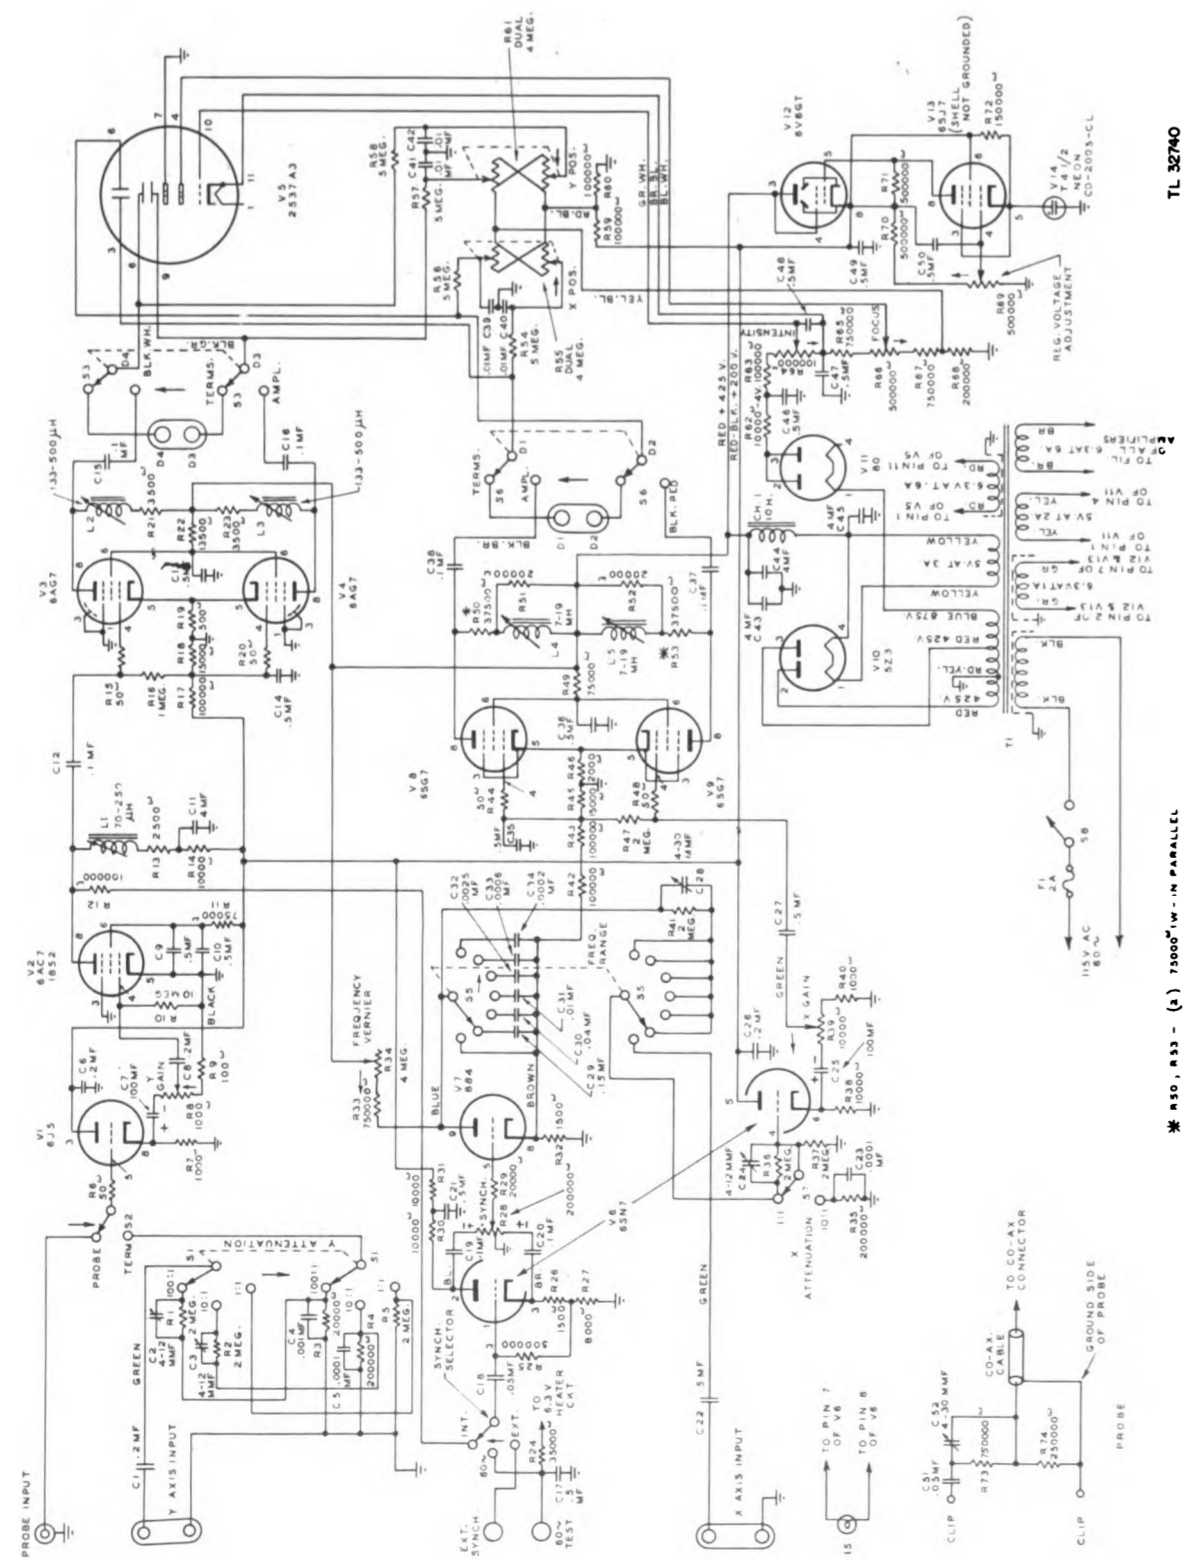

Figure 24. Oscilloscope I-134, Dumont model 224, schematic diagram.
a. *General.* (1) Oscilloscope Dumont model 224 is a complex instrument. Its maintenance must not be attempted by inexperienced personnel.
(2) Complete maintenance on this oscilloscope consists chiefly of tube and fuse replacement and, to a lesser extent, replacing component parts. Faults are located by continuity tests, resistance measurements, voltage readings, signal tracing, and visual inspection.
(3) The schematic diagram (fig. 24) contains information concerning power-supply voltages, values of component parts, tube bases, and color coding of power leads. All tube locations are marked on the chassis label.
(4) An over-all check to determine whether or not the vertical-amplifier system is functioning properly